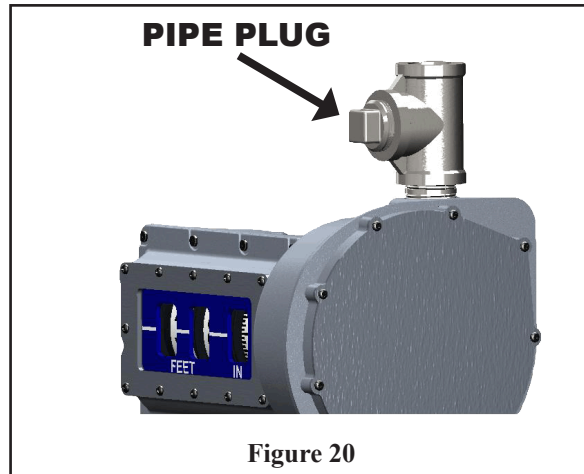

Figure 20
1. Remove the pipe plug and grab onto the cable (See Figure 20.)